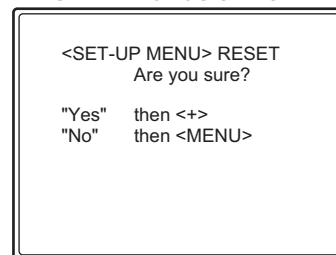

Fig.3
- (1) While press the [MENU] button and [CHROMA/PHASE] button simultaneously, and push the MAIN POWER switch on.
- (2) Then displays the screen as shown in Fig.3. Press the [+] key. Then clear the error count of the each item.